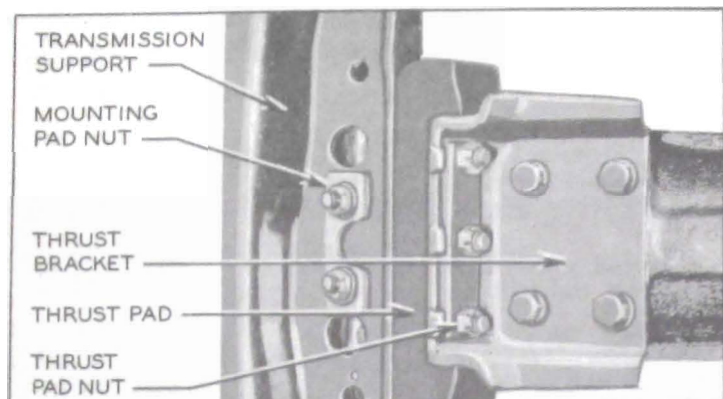

Figure 2-41—Synchromesh and Variable Pitch Dynaflow Transmission Mounting—Bottom View
1. Make sure that transmission support to frame shims are in original position and that support to frame bolts are tight. Make sure that bolts holding thrust bracket to rear bearing retainer are tight. See figure 2-41.